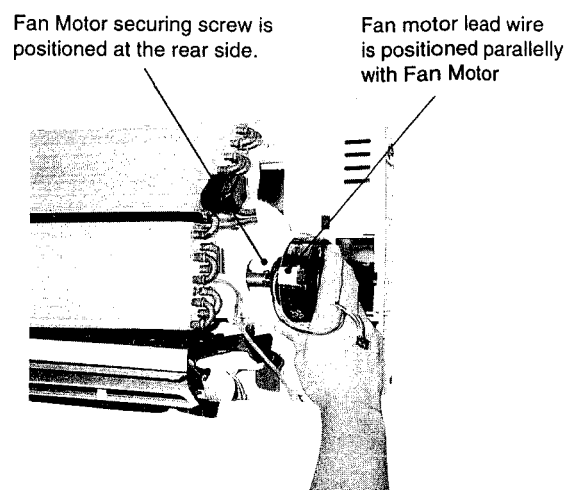

Fig 8.
4. To fix the Indoor Fan Motor, ensure that the Fan Motor securing screw is positioned at the rear side and the Fan Motor lead wire is positioned parallelly with Fan Motor. (Fig 8.)